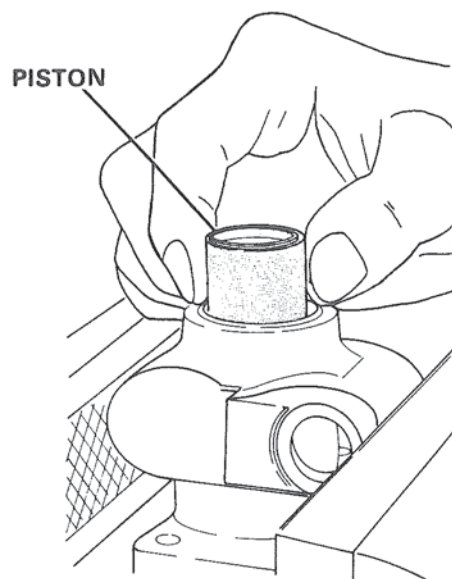

Figure 18. Installing Piston.
C. Insert push rod, then piston and piston spring into housing. Figure 18.